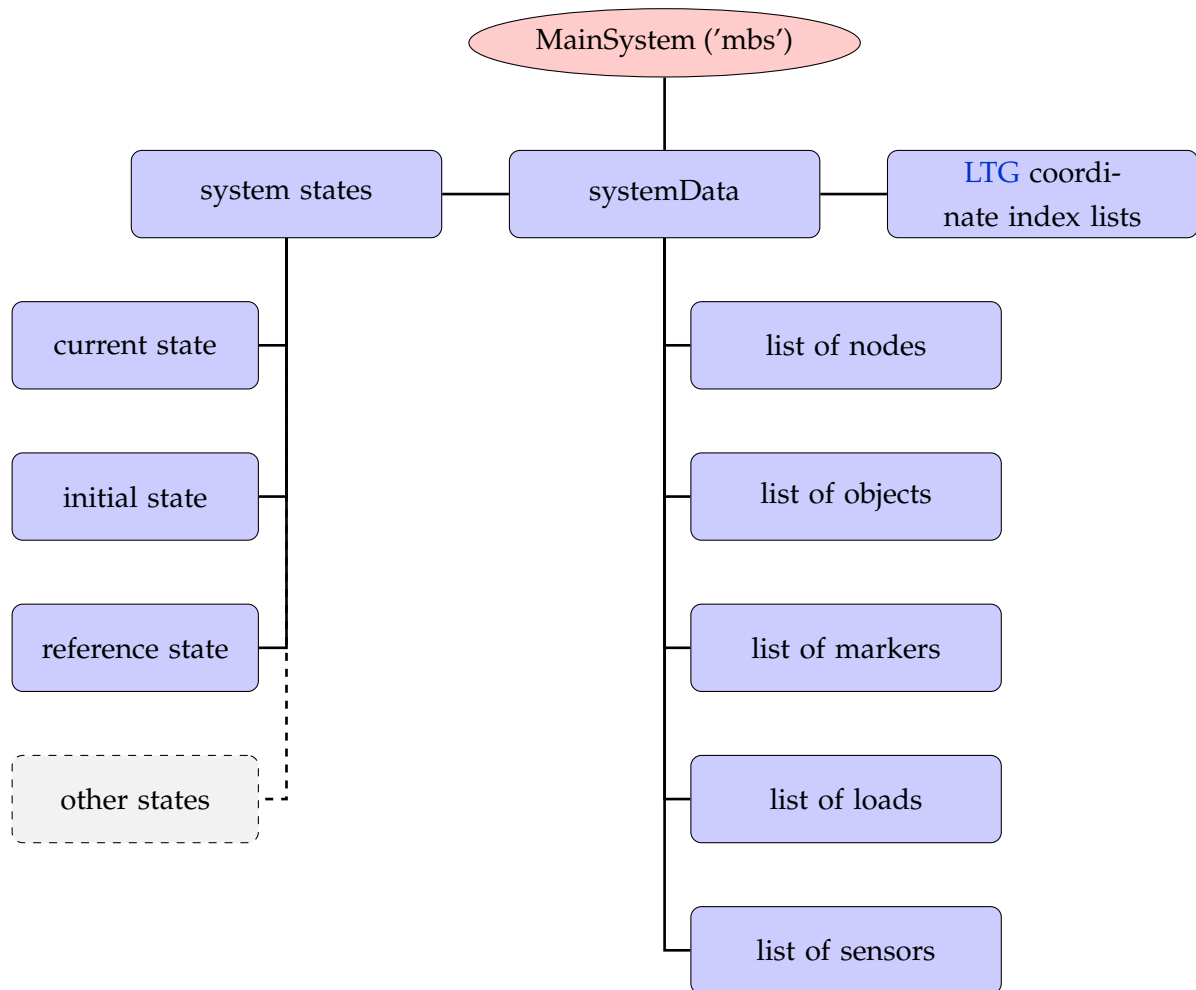

Figure 2.3: Overview of `systemData`, which connects items, states and stores the LTG. Note that access to items is provided via functions in `MainSystem`.
- `mbs.systemData`: contains the initial, current, visualization, ... states of the system and holds the items, see Fig. 2.3